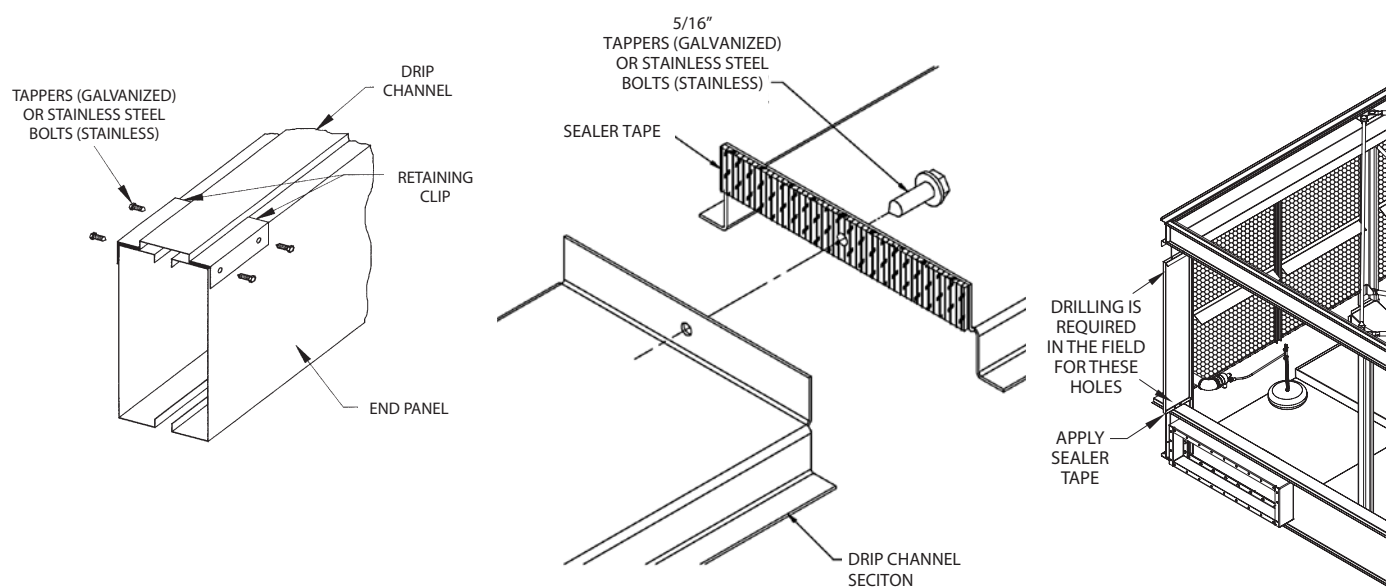

Figure 2a - Drip Channel and Vertical Splash Guard Installation
10. Place the vertical splash guard in the bend of the vertical supports. On galvanized units, attach the vertical splash guard using 5/16" (8mm) self-tapping screws. On stainless steel units, attach the vertical splash guards using 5/16" (8mm) stainless steel nuts and bolts. (See figure 2a)
11. Attach the bottom of the vertical splash guard to the drip channel using 5/16" hardware and sealer tape as shown in Figure 2a.
12. This step only applies to units with a 5-1/8" (130mm) spacing between cells. Place the filler cap channel in the upper flanges of the bottom section as shown in Figure 2a. Attach to vertical splash guards using 5/16" (8mm) tappers (for galvanized units) or stainless steel nuts and bolts (for stainless steel units)